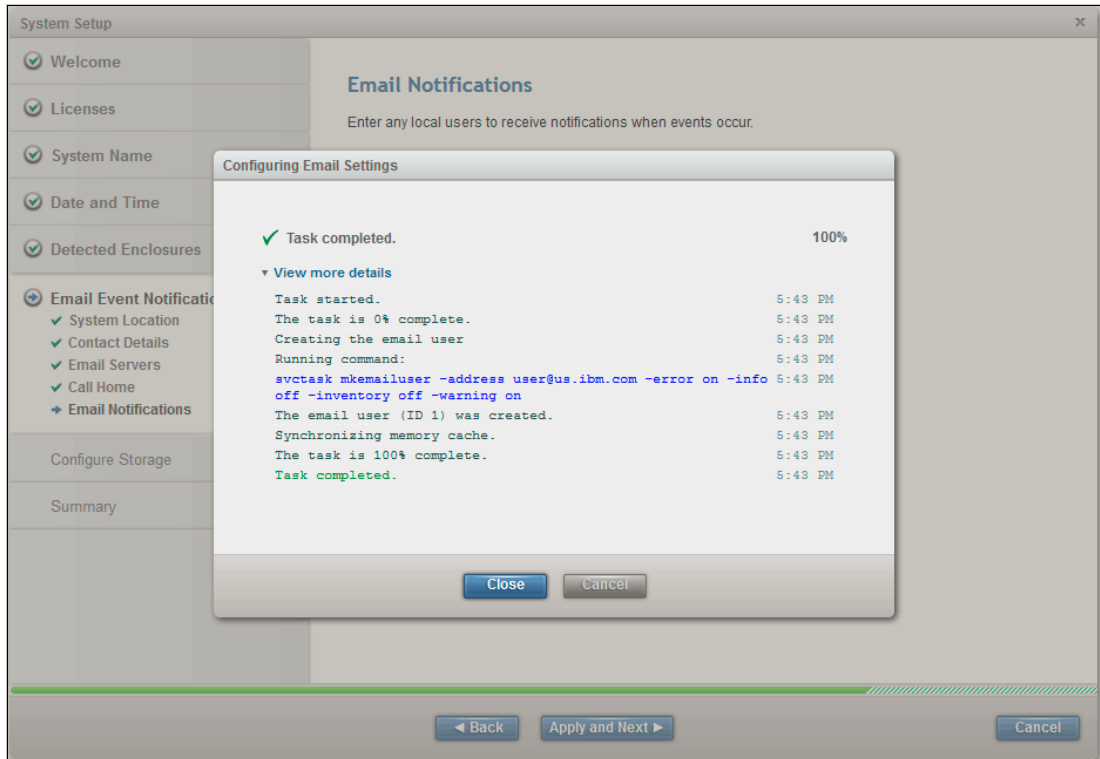

Figure 5-27 Configuring Email Settings
20. The system then configures settings, as shown in Figure 5-27. This concludes the Event Notifications setup.